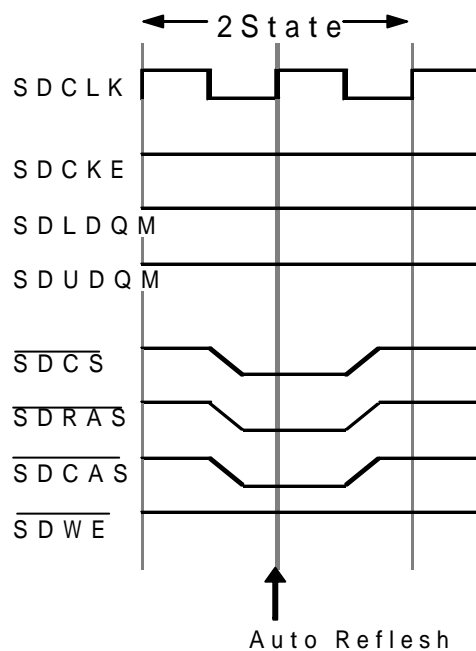

Fig. 3.16.2(7) Refresh Cycle
The refresh cycle is shown in Fig. 3.16.2 (7). Moreover, the refreshment interval is shown in Table 3.16.2 (1).